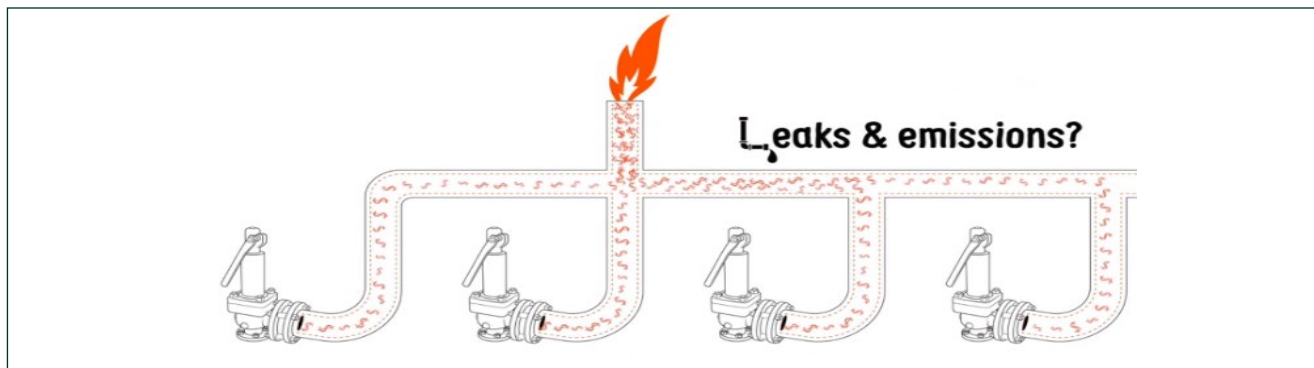

Figure 1 – Direct-Spring PRV leakage
- **Process Loss & Fugitive Emissions** – Whether it be from a ruptured bellows causing backpressure to leak out of the valve bonnet, metal to metal seat damage causing seat leakage, or a violent event like valve chatter creating major leak paths for process fluid, this unwanted leakage leads to costly loss of process and unwanted fugitive emissions into our environment (see Figure 1).